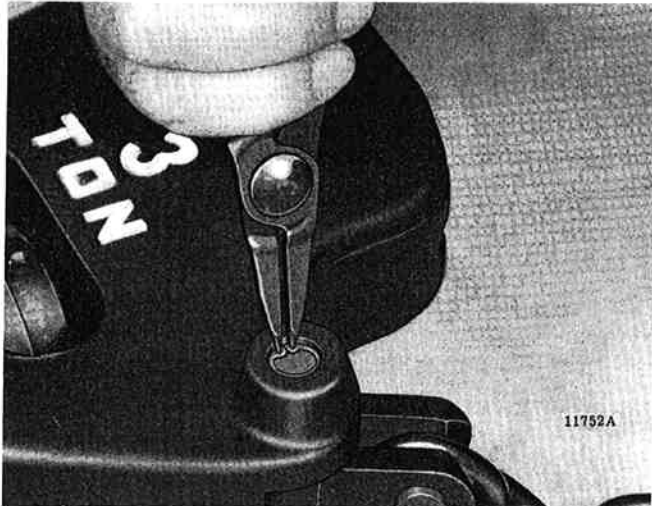
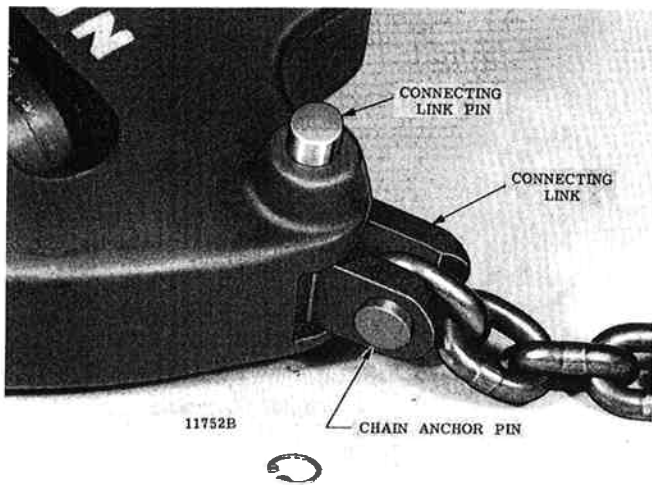

Figure 7-30. Removing Retaining Ring From Bore of Connecting Link Pin - 3 Ton Lower Block Assembly.
Figure 7-31. Removing Connecting Link Pin From 3 Ton Lower Block Assembly.
(1) Remove chain sprocket from lower block following procedure for 2-ton link chain models described in paragraph 7-5. b. (2) above.
(2) To disconnect end of chain anchored to lower block, remove retaining ring from pin bore (fig. 7-30). Push connecting link pin from bore by pressing through hole provided in opposite side of block (fig. 7-31). Chain connecting link is now free and can be further disassembled for inspection.